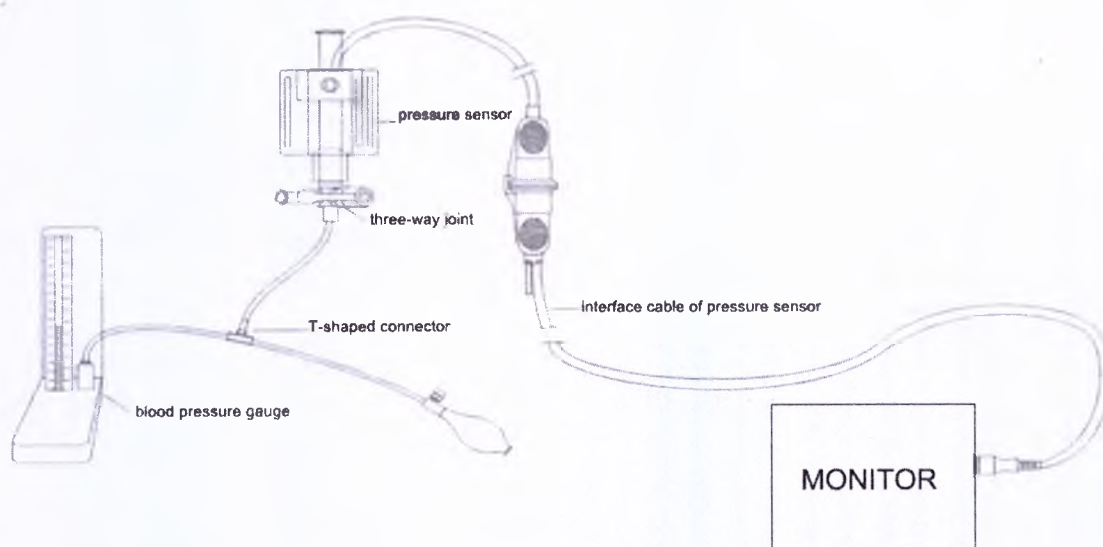

Figure 17-4 IBP Calibration Connection Schematic
- 2) Mercury barometer calibration procedure: (Refer to Figure 17-4)